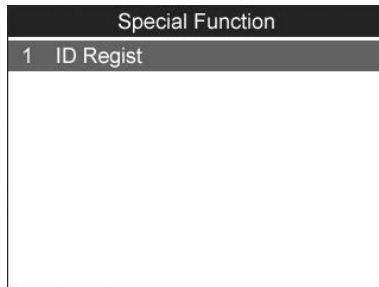

Figure 15.12
- 1) From **Special Function** Menu, use the **UP/DOWN** scroll button to select **ID Regist** function. (Figure 15.12)